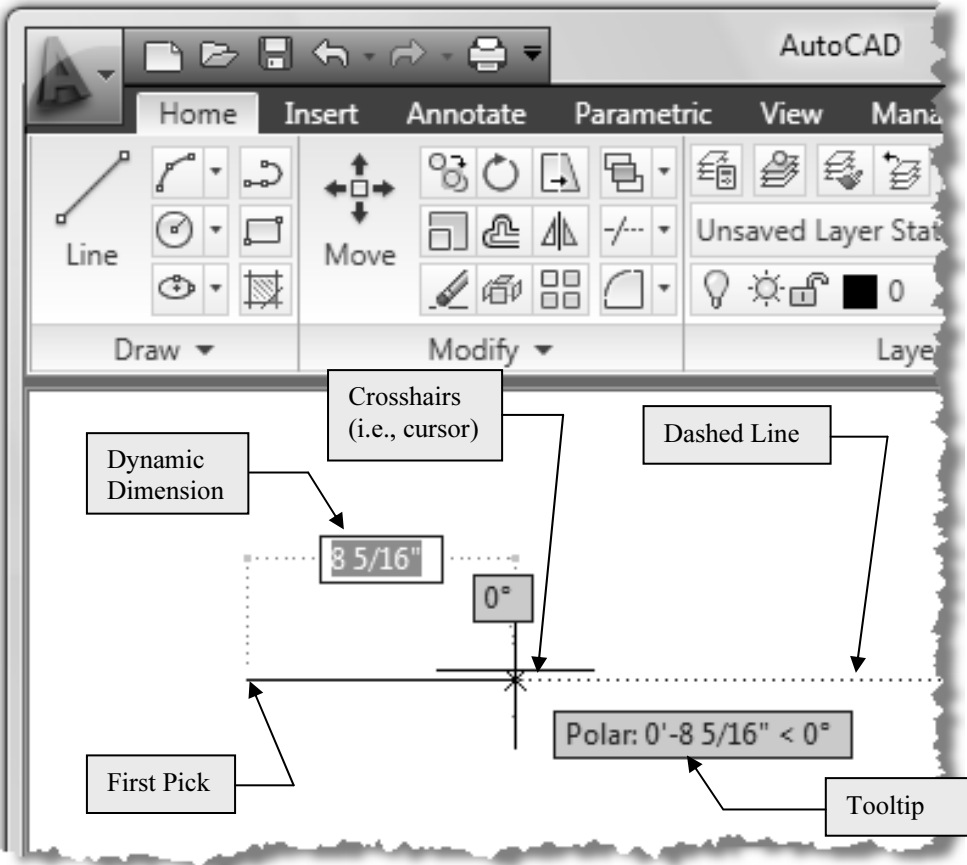

Figure 2-1.10 Drawing a line with the help of Polar Tracking
- 16. Start moving the mouse towards the right, and generally horizontal until you see a dashed reference line (extending off the screen in the direction you want to draw the line) appear on the screen as in Figure 2-1.10.